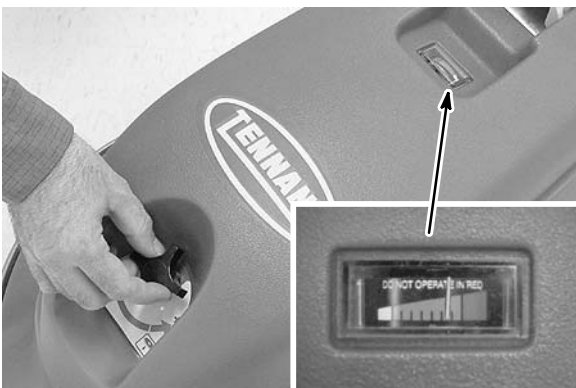

FIG. 8
5. To adjust the pad pressure, turn the adjustment knob counter-clockwise to increase pad pressure and clockwise to decrease (Figure 8).